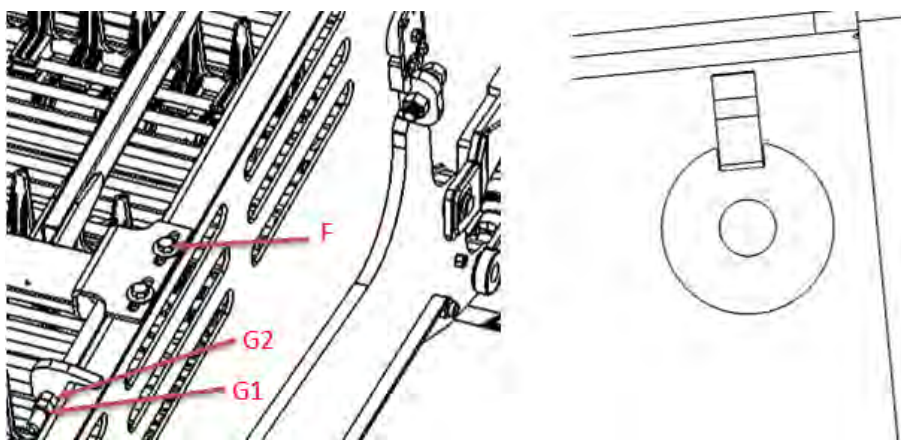

Figure 7-5: Tension System and Hole Line Up
1. Loosen four ½" nuts and bolts (F), two on each side of the elevator and loosen the end 5/8" nuts (G1) on both sides of the elevator.
2. Use the second 5/8" nut(G2) to line up the holes as shown in Figure 7-5 by either tightening the nut to draw the upper section of the elevator up or loosen to drop it down.